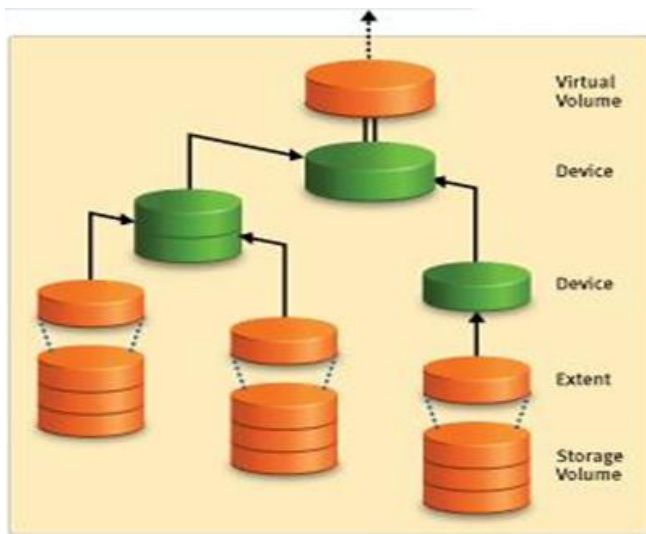

Figure 5. EMC VPLEX logical storage structures
VPLEX encapsulates traditional physical storage array devices and applies three layers of logical abstraction to the storage volumes as seen in Figure 5. Extents are the mechanism VPLEX uses to divide storage volumes. Extents may be all or part of the underlying storage volume. EMC VPLEX aggregates extents and it can apply RAID protection in the device layer. Devices are constructed using one or more extents and can be combined into more complex RAID schemes and device structures as desired. At the top layer of the VPLEX storage structures are virtual volumes. Virtual volumes are created from devices and inherit the size of the underlying device. Virtual volumes are the elements VPLEX exposes to hosts using its front-end (FE) ports. Access to virtual volumes is controlled using storage views, which are comparable to Auto-provisioning Groups on EMC Symmetrix or to storage groups on EMC CLARiiON®. They act as logical containers determining host initiator access to VPLEX FE ports and virtual volumes.